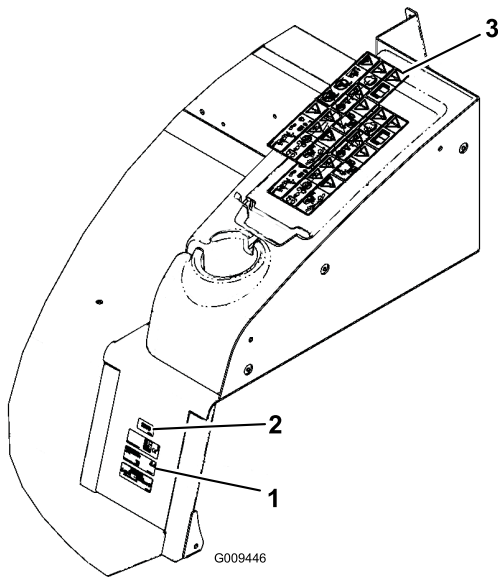

Figure 9
1. Thoroughly clean the area where you will install the decal (Figure 9).
3. Peel the backing from the decals and install the decals at the locations shown in Figure 9.